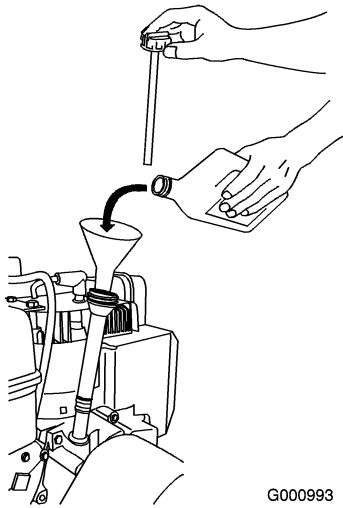

Figure 34
2. Remove the dipstick and check the oil level (Figure 34). If the oil level is below the Add mark on the dipstick, add oil. Refer to Filling the Engine with Oil.